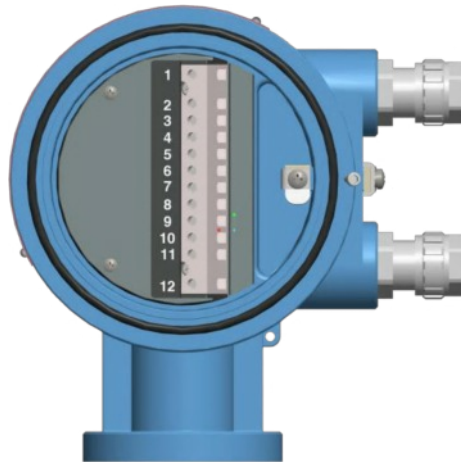
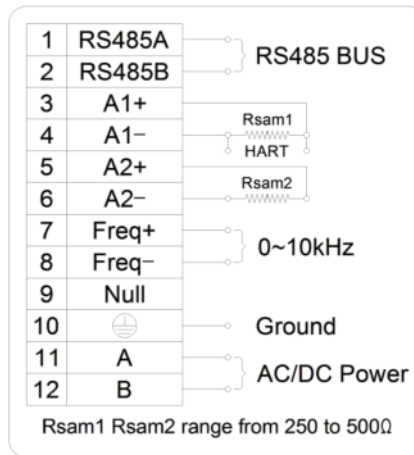

Figure 3-2 T1version transmitter terminal layout
Figure 3-3 T1 version transmitter terminal description
3.1.3.1 The transmitter’s terminal layout is detailed in figure3-2, and the terminal functions are defined by figure 3-3. (Analog Loop 2 is not default option)